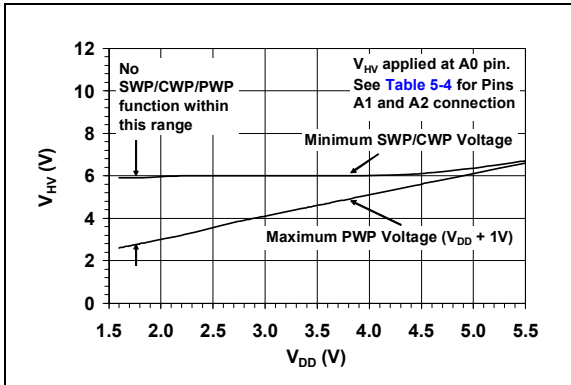

FIGURE 2-13: SWP/CWP/PWP High Voltage Range.
- Note 3:** The range of voltage applied at A0 pin for Permanent Write Protect is GND to $V_{DD} + 1V$. See Figure 2-13 and Section 5.3.3 "Write Protection".